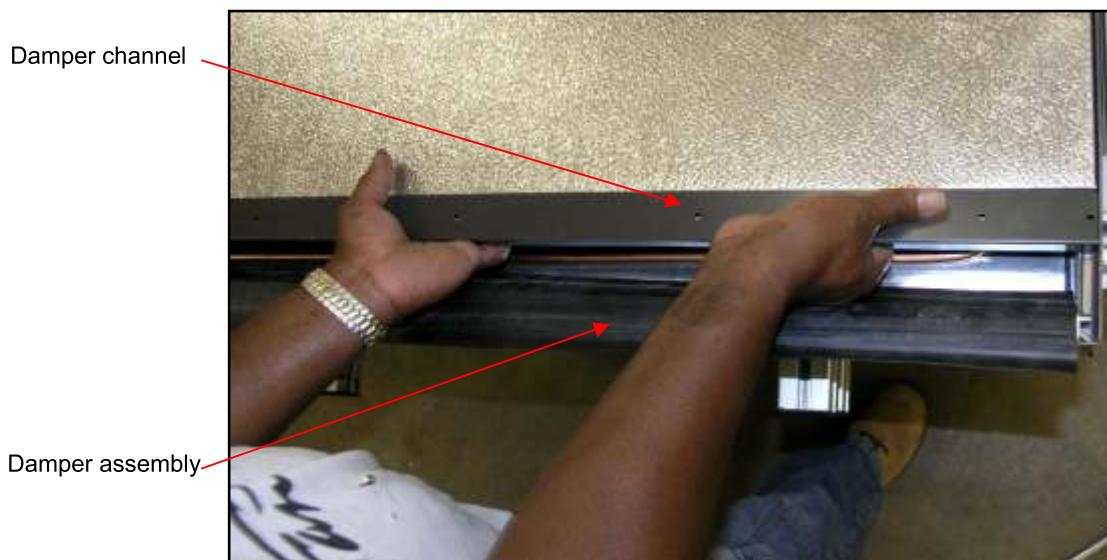

Fig. 6.1.4 – Removing and inserting stagnation-control device.
3. Carefully remove stagnation-control device assembly by first gently pushing down on damper closest to collector- backing, and then by gently pulling assembly out and away from aluminum covered back insulation (Fig. 6.1.4).
4. Install stagnation-control device in grill's former location and vice versa. It must be at top and grill must be at bottom of collector for stagnation control to function. Be sure to firmly seat grill channel and stagnation-control device assembly channel over aluminum-covered back insulation (Fig. 6.1.4).